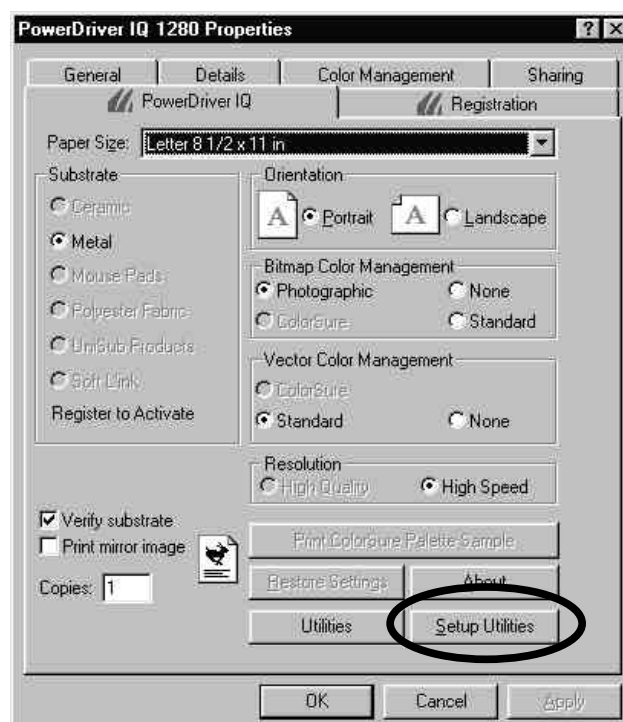

Fig 1
- iii. Select the PowerDriver IQ tab; see Fig 1.